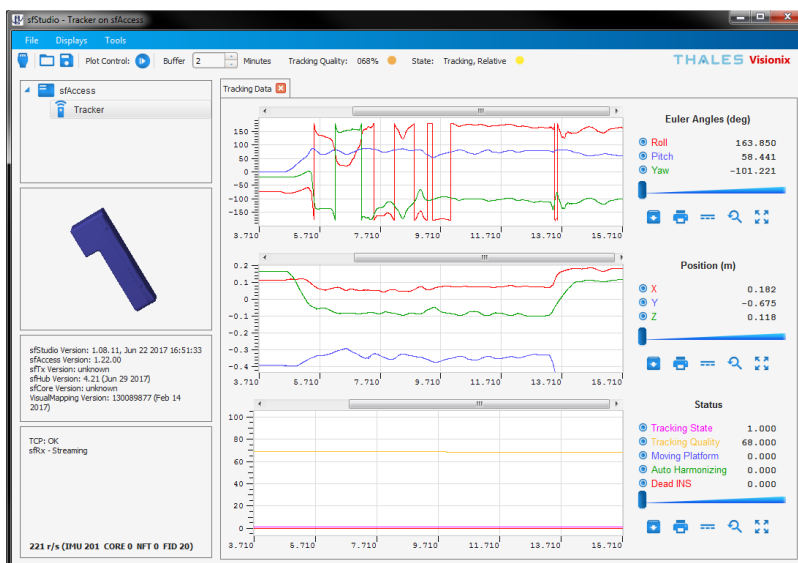

Figure 19 – Tracking Data Display
5. A popup will come up that indicates the system is attempting to connect to the tracker. After about fifteen to thirty seconds, the tracker should connect. A number of changes to the sfStudio GUI will take place after the tracker has successfully connected, as seen in **Figure 19**. Primarily, the NFT Status will have changed from **No Communication** with a greyed out icon to **Tracking, Relative** with a yellow icon. The Tracking Quality data will also populate accordingly, showing a 68% quality in the figure below. Additionally, to the right, a blue 3D model of the InertiaCam will be present that responds to and show changes in orientation. Towards the bottom left, blue text will display the data transfer rate in records per second (r/s). **Figure 19** shows the tracker connected and transferring 221 r/s. The Tracking Data tab will also be displayed and begin drawing graphs for orientation, position, and status information.